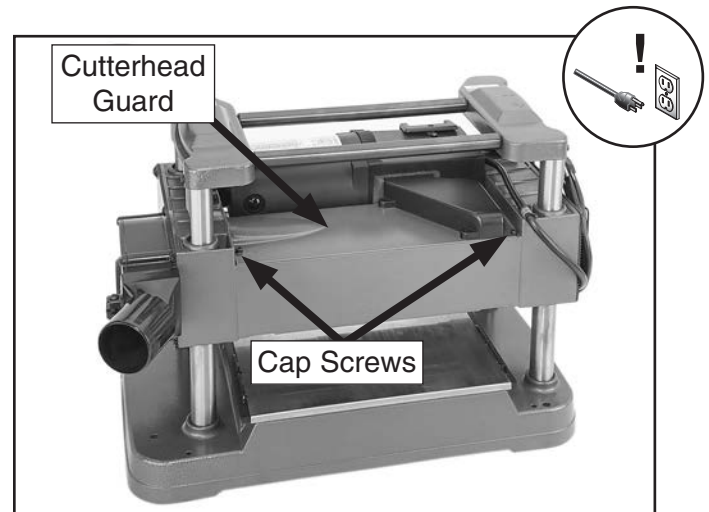

Figure 27. Position of cutterhead guard prior to disassembly.
2. Remove (2) M5-.8 x 10 cap screws from cutterhead guard, then remove guard (see Figure 27).